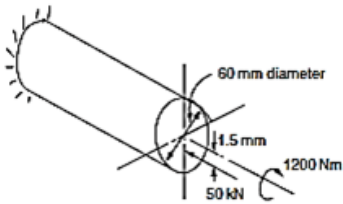

Figure 2
- (b) A cantilever beam of solid, circular cross-section supports a compressive load of 50 kN applied to its free end at a point 1.5mm below a horizontal diameter in the vertical plane of symmetry together with a torque of 1200Nm as shown in Figure 2. Calculate the direct and shear stresses on a plane inclined at 60° to the axis of the cantilever at a point on the lower edge of the vertical plane of symmetry. [7M]